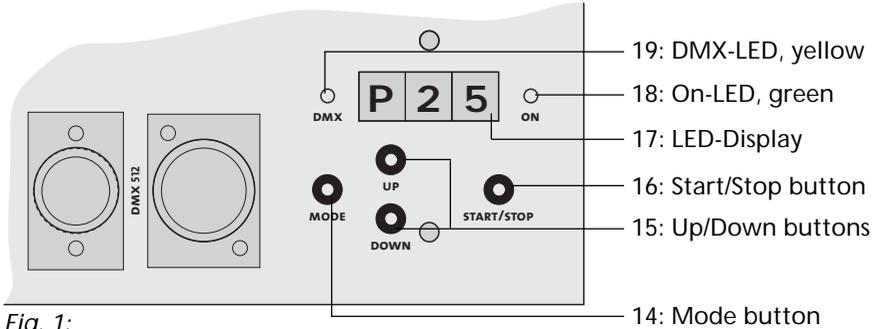

Fig. 1:
- a) Press the Mode button [14] at the control panel until a P and two figures appear on the LED display [17] (see Fig. 1).